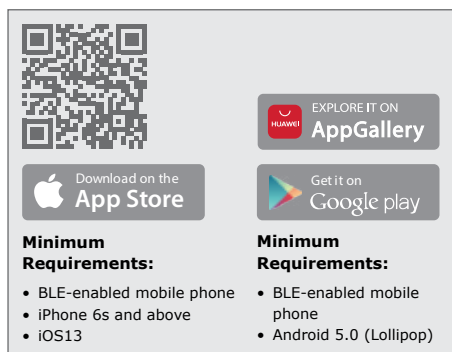

FIGURE 8
1. Scan the QR Code in Figure 8.